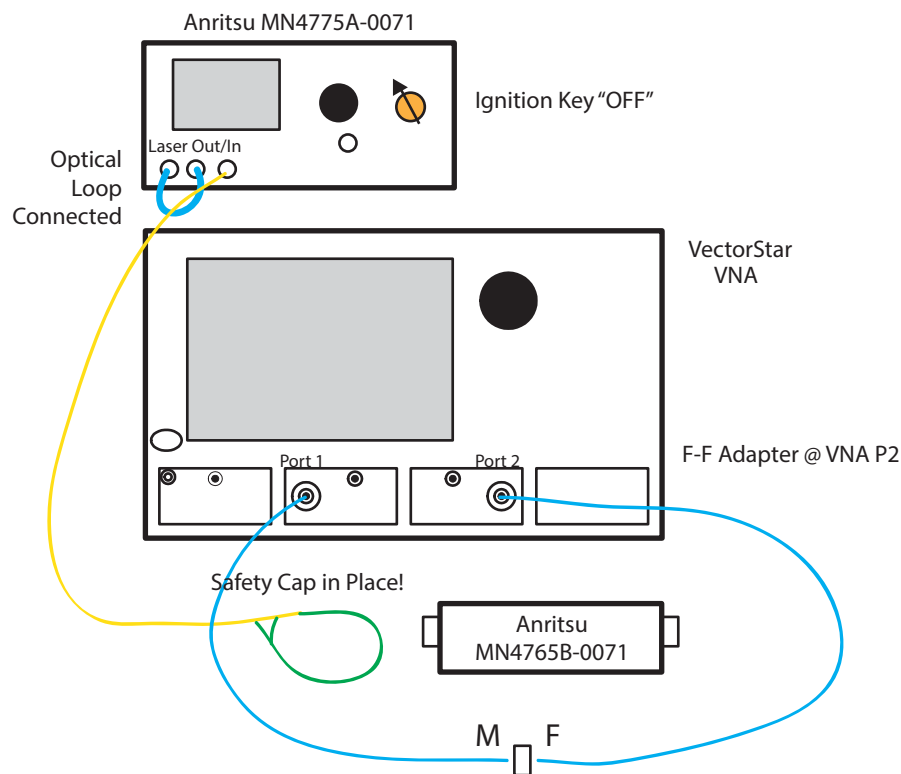

Figure 3-48. Initial ME7848A-0271 1310 nm Initial System Setup
1. Configure components (VNA, O/E, E/O, RF and Optical cables) as shown in Figure 3-48.
- b. Keep **Ignition-Key** in OFF Position as shown in Figure 3-48.
6. Make initial VNA RF Connections shown in Figure 3-48.
7. Make Optical connection shown to MN4775A-0071 as shown in Figure 3-48.